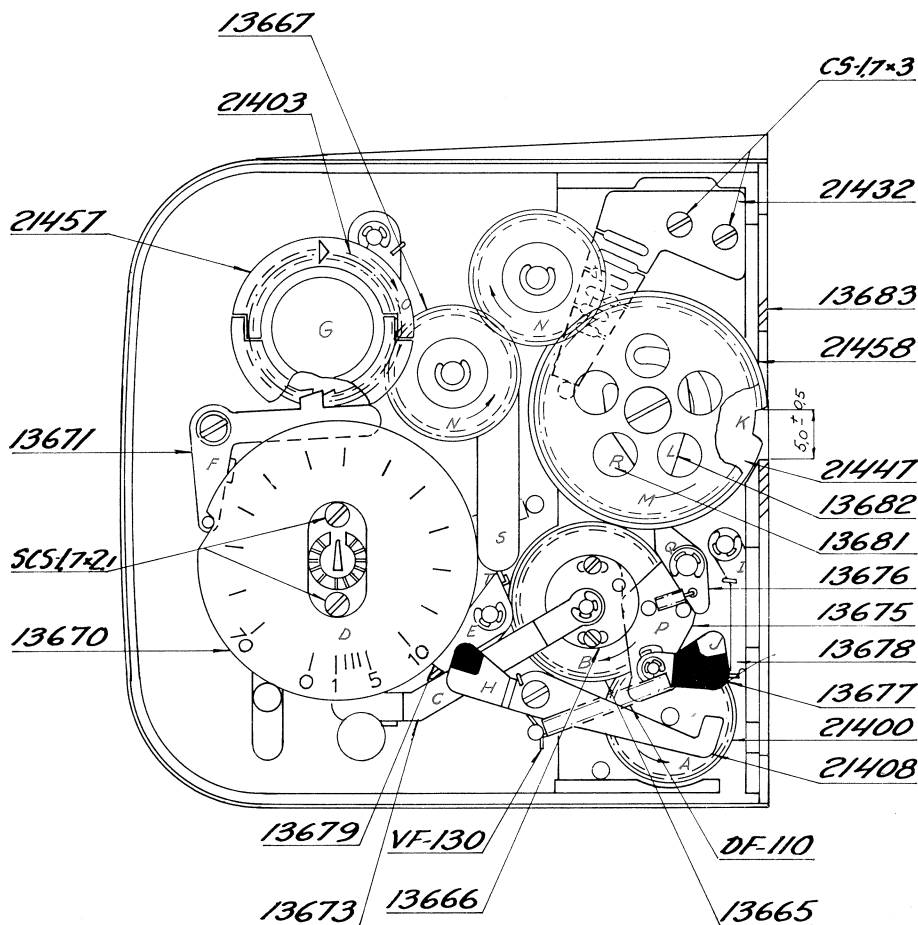

Fig. 3
Adjustment: Feed the film forward by turning handle 21457 **clockwise** — note that the metering mechanism does not start functioning until the film is stretched completely between the feed side and the take-up side — until the cam plate 13675 is in the position described above. See Fig. 3. Zero the counter by pressing the zero lever 13672 to the rear at its upper angular stop. This movement clears the arm 13673 and the pawl 13679 whereby the number disk returns to the "0" position. Now start film feed using handle 21457 and when gear 13665 has moved three (3) turns — corresponding to the feed of three (3) picture frames — the handle 21457 must be stopped by the catch 13671.
If catch 13671 blocks film transport too late so that gear 13665 with its cam disk rotates rather more than three (3) turns, adjust the number disk **clockwise**. Tighten both the screws and check again as described above. Seal the screws with safety laquer and remove the cassette holder. See also Fig. 3.
- a) Check with callipers that the dimension 5.0 ± 0.5 mm shown in Fig. 3 is correct. Should this dimension be **under** 4.5 or possibly **over** 5.5 mm, there is risk of the camera feed gear not corresponding with the magazine lower gear 21447 with the result that both the gears come into contact with tooth crown against tooth crown. The result is jammed feed.